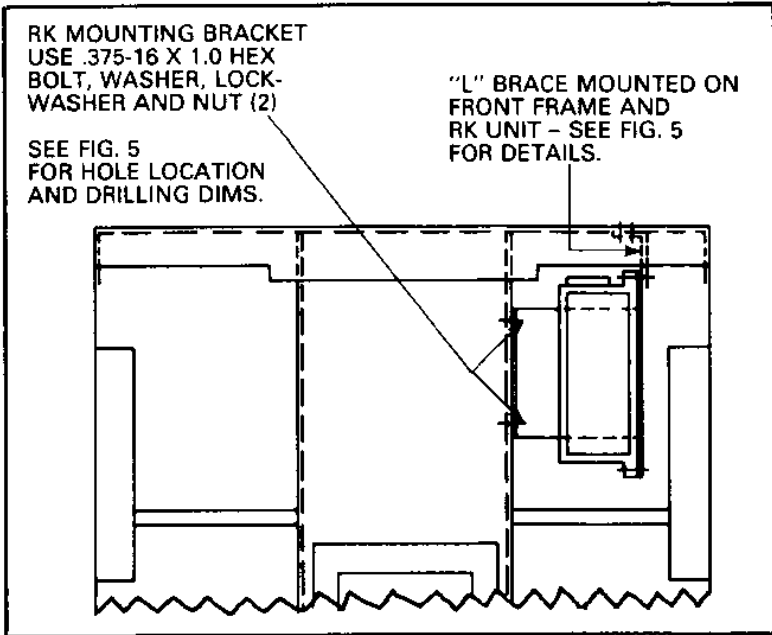

Fig. 6 Front View of Breaker
- 4. Line up the RK unit with the four (4) holes on the bracket and secure to the top using .190-32 x 1.0 fil. hd. screw (invert screw), lockwasher, flat washer, "L" brace and nut (See Fig. 6), now secure the bottom of RK unit to the bracket, using .190-32 x 1.0 fil. hd. screw, flat washer, lockwasher and nut. Note: The RK unit will be in a vertical position after being completely mounted.
- 6. Secure the complete assembly to the right side of the front frame (See Fig. 6) using .375-16 x 1.0 hex bolt, flat washer, lockwasher and nut.
- 7. Now secure the "L" brace to the front frame, the RK unit is now completely mounted and secured, Fig. 6.